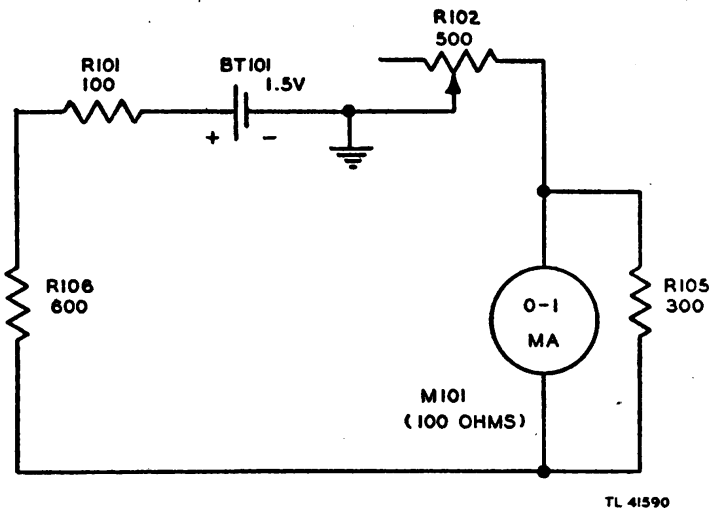

Figure 6. Meter-adjusting circuit for resistance measurements, simplified schematic diagram.
(2) *MTR ADJ Position (fig. 6).* With the selector switch in this position (first step), battery BT101, current-limiting resistors R101 and R106, meter M-101, and current-adjusting resistor R102 (MTR ADJ control) are all connected in series to form a complete circuit. This circuit is used to adjust the meter pointer to full-scale deflection before resistance measurements are made on crystal rectifiers. The adjustment is made by means of resistor R102 until sufficient current flows in the circuit to give full-scale deflection of the meter pointer. The meter is shunted with resistor R105 to provide the correct sensitivity for the resistance range.
1. MTR ADJ position. Meter pointer does not indicate or cannot be adjusted to full-scale deflection.	1. Weak battery. Defective safety switch or faulty contacts on selector switch. Check all parts in this circuit (fig. 6) for an open circuit.